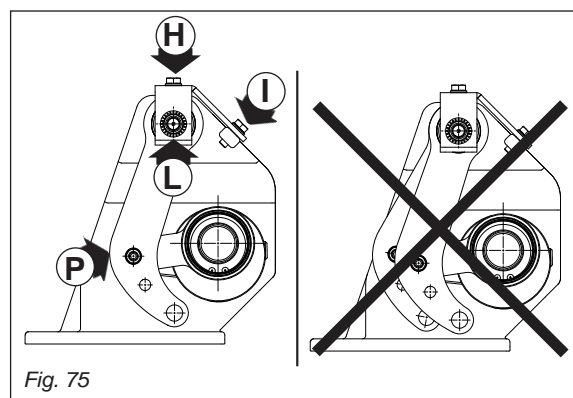

Fig. 75
- CAUTION: do not tighten the screws without having aligned the yokes correctly (P, Fig. 75).